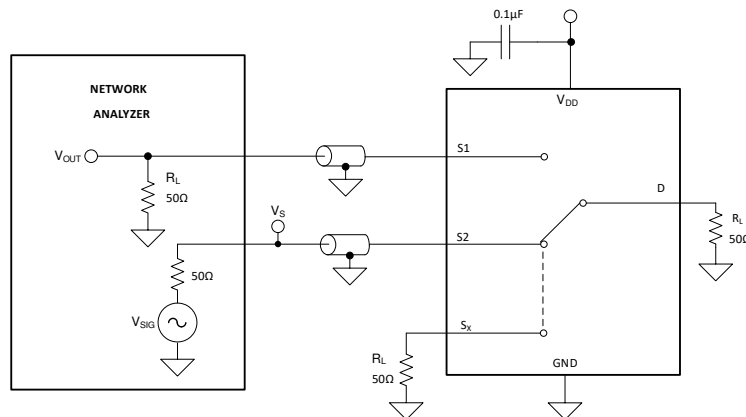

图 15. Crosstalk Measurement Setup
Crosstalk is defined as the ratio of the signal at the drain pin (D) of a different channel, when a signal is applied at the source pin (Sx) of an on-channel. 图 15 shows the setup used to measure, and the equation used to calculate crosstalk.